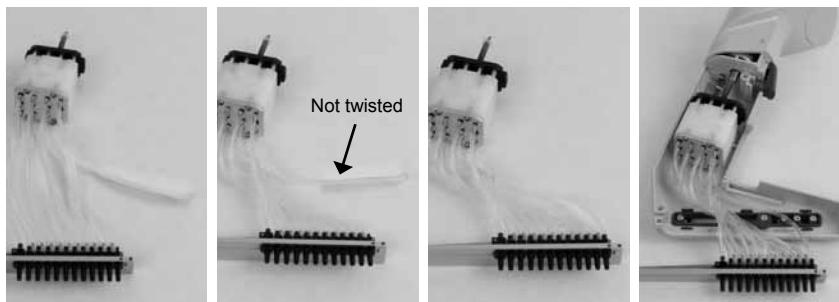

Figure F.1.4d: Rotating Manifold Assembly
- 4. Rotating Manifold Assembly** After installing the piston/cylinder assembly, install the manifold assembly into the main housing. Make sure manifold is in closed position. To keep the tubing free from ejector contact, rotate the manifold plate and tubing one complete turn counterclockwise (see *Figure F.1.4d*). Spin tubing once, then reconnect tube one without twisting (*it is the only tube not twisted*).